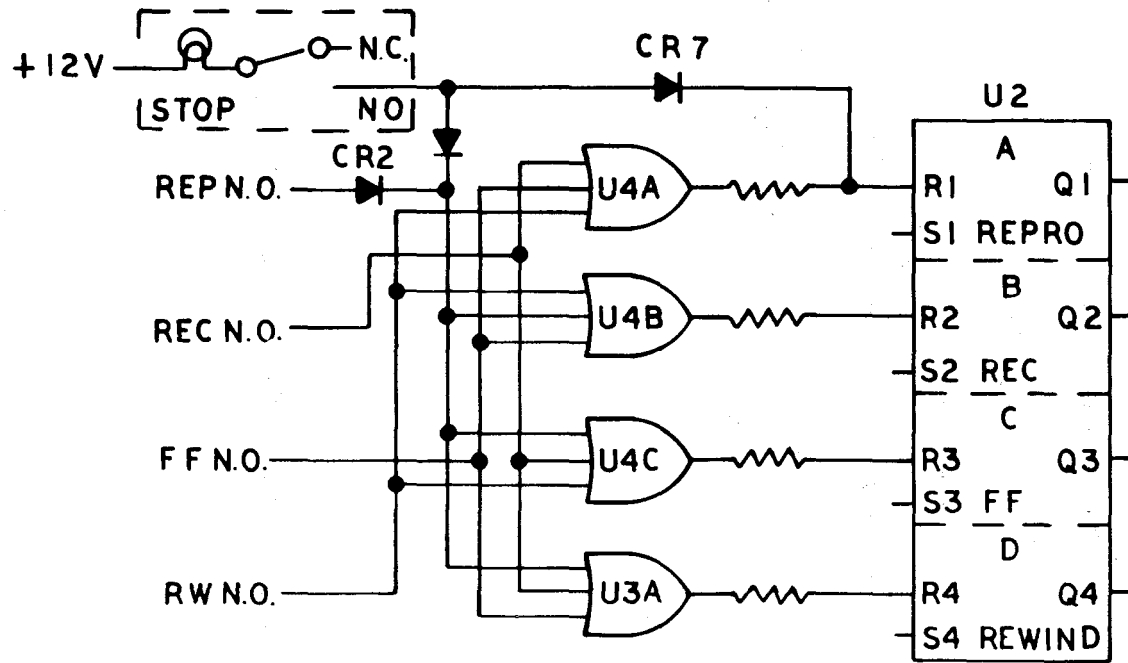

FIG 6-6
j. Record/Reproduce Control Logic. Pressing the REPRO switch places a logic high on SA of U2 and resets all other functions (See Figure 6-6.) Latch output QA of U2 goes high which enables the REPRO Light Indicator, Reproduce Enable, Carriage Solenoid, Capstan Enable and Take-Up motor. (The take-up motor drive receives partial activation due to the Zener action of VR-1). The spool brakes are disabled by the high output of QA. The carriage assembly and capstan pinch rollers are slower to engage than the take-up spool motor action, and tape would slip by the head without some hold back tension. C3 and C4 provide a wide pulse of energy to the supply spool